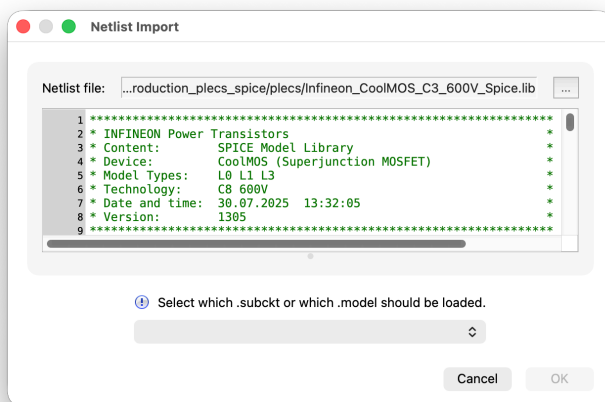

Figure 5: Netlist import wizard
- 8 You should see a window similar to the one shown in Fig. 5. In the lower section, a drop-down menu allows you to select the desired subcircuit from the ones available in the netlist library. From the drop-down menu select the **IPD60R600CM8_L0** component. The selected subcircuit and all the dependencies are now imported and embedded into the Netlist component.